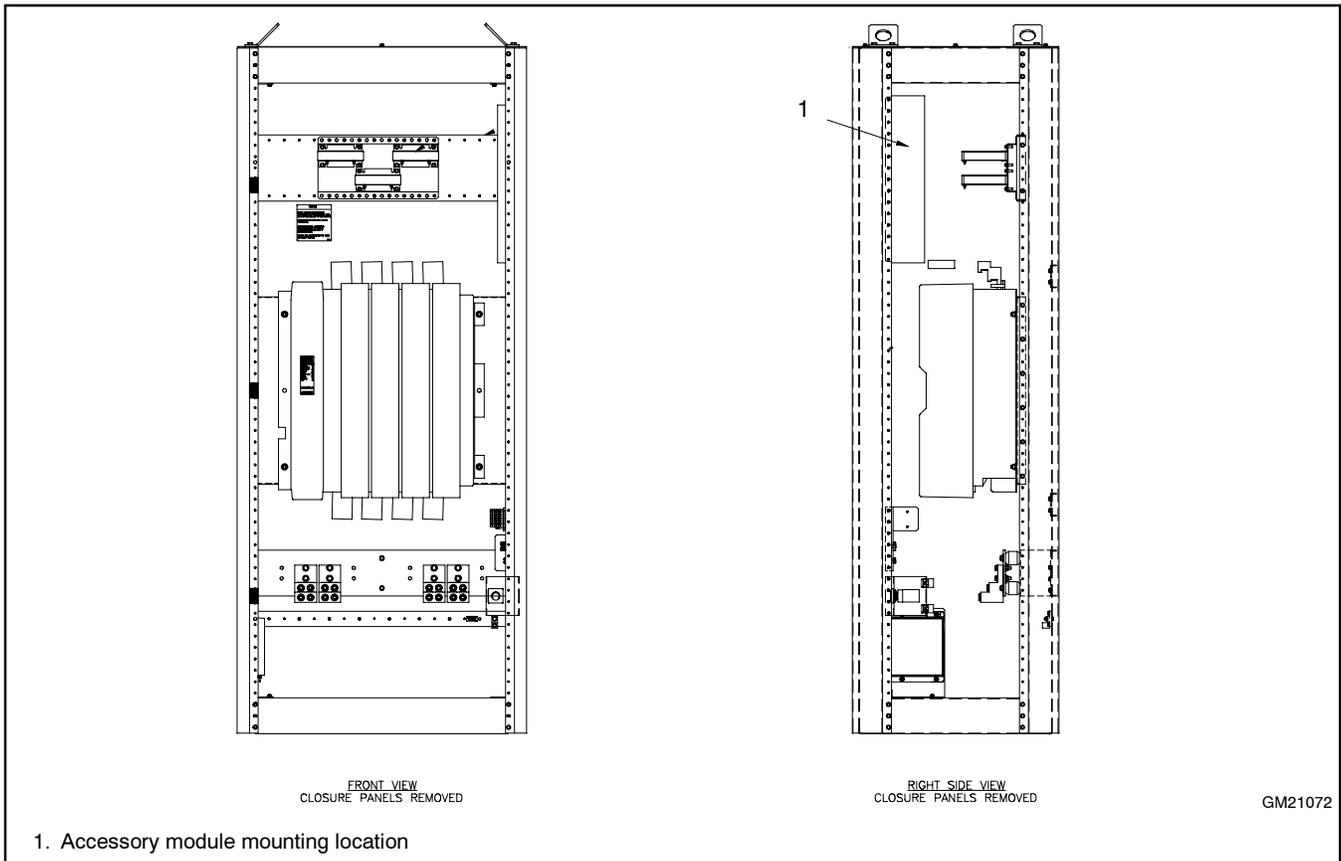

Figure 6 Typical Module Location, 1200-2000A Framework-Style Enclosures
1. Refer to Figure 6 through Figure 12 for typical module mounting locations. Locate the figure for your enclosure type and size.
1.3 Install the mounting bracket in a framework-style enclosure. See Figure 6.
2. Install the module mounting bracket (GM46754) inside the enclosure using three screws (X-67-114) through existing holes in the enclosure's framework. The typical module location in a framework-style enclosure is shown in Figure 6.